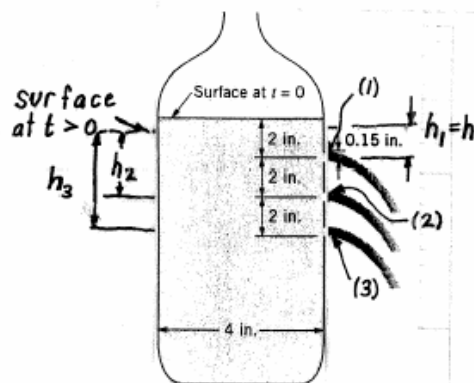

FIGURE P3.20
3.20 Pop (with the same properties as water) flows from a 4-in. diameter pop container that contains three holes as shown in Fig. P3.20 (see Video 3.5). The diameter of each fluid stream is 0.15 in., and the distance between holes is 2 in. If viscous effects are negligible and quasi-steady conditions are assumed, determine the time at which the pop stops draining from the top hole. Assume the pop surface is 2 in. above the top hole when $t = 0$. Compare your results with the time you measure from the video.